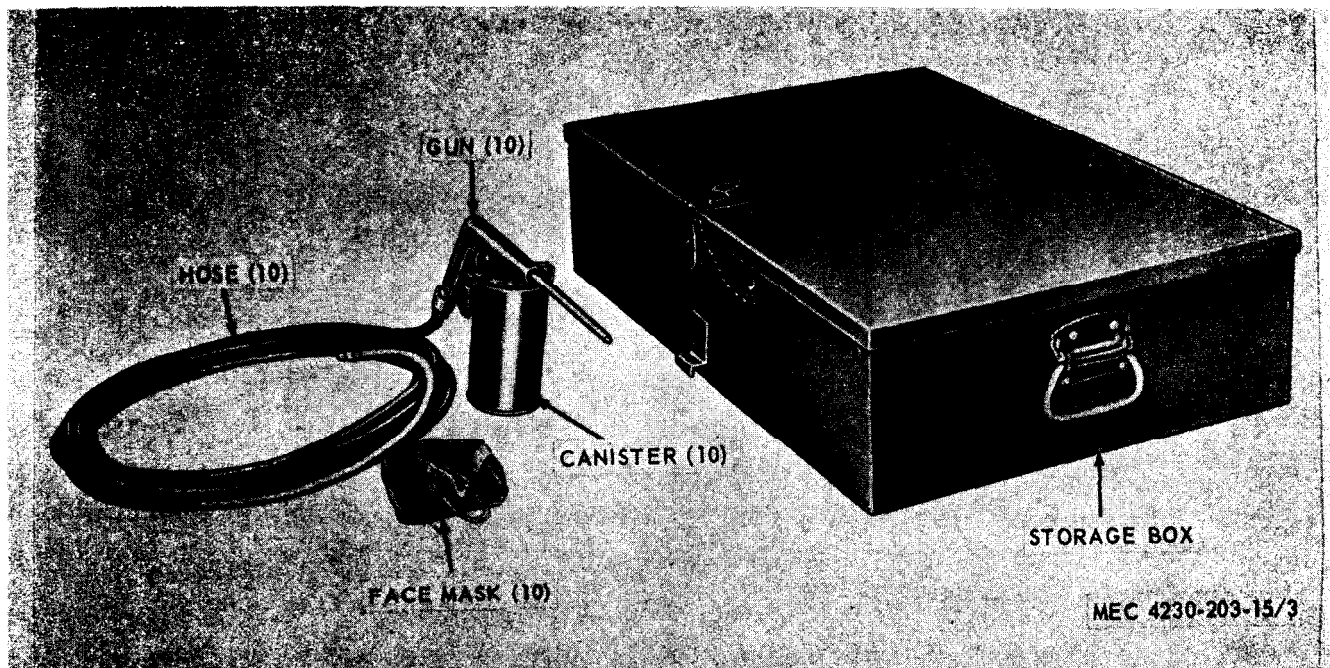

Figure 2-1. Separately packed components.
c. The delousing outfit comes with separately packed components consisting of face masks, air guns, hoses, and dust cans. Refer to figure 2-1 for the separately packed components.